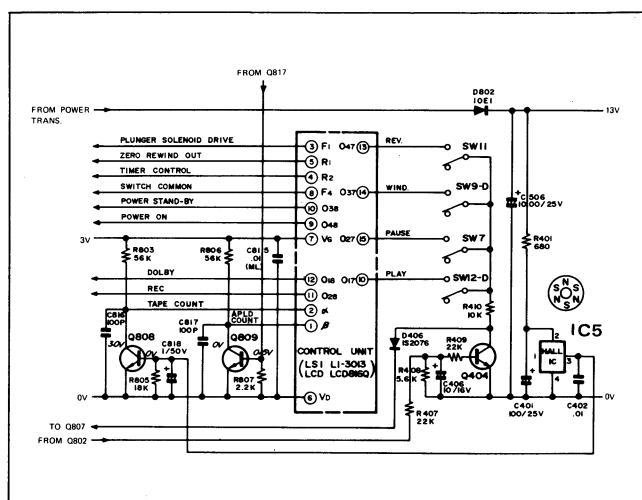

Figure 24
■ TAPE COUNT PULSE GENERATOR CIRCUIT (See Figure 24)